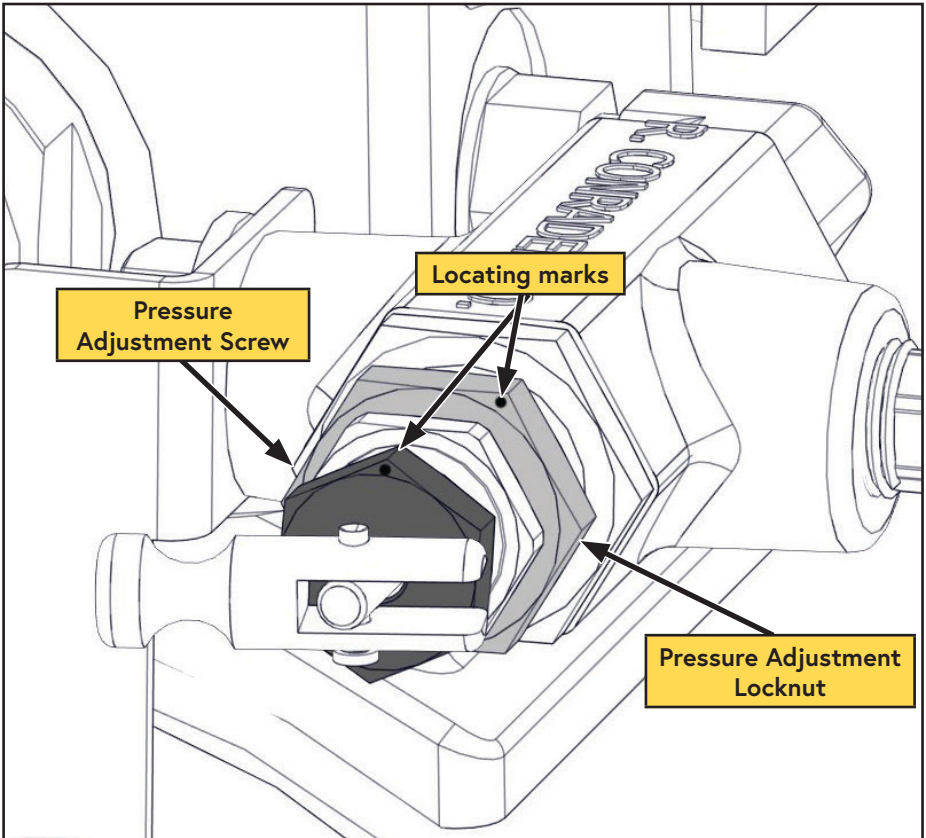

Figure 50 — Adjusting the Unloader Valve
- Make a locating mark on both the "Pressure Adjustment Locknut" and the "Pressure Adjustment Screw" (Figure 50).